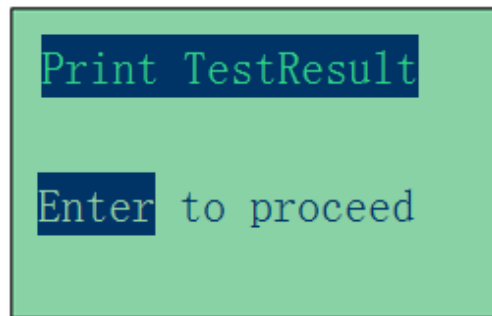

Figure 70
5. While in this mode, you can print the results by pressing  key and the display will prompt you: (Fig. 70) if the printer is connected.